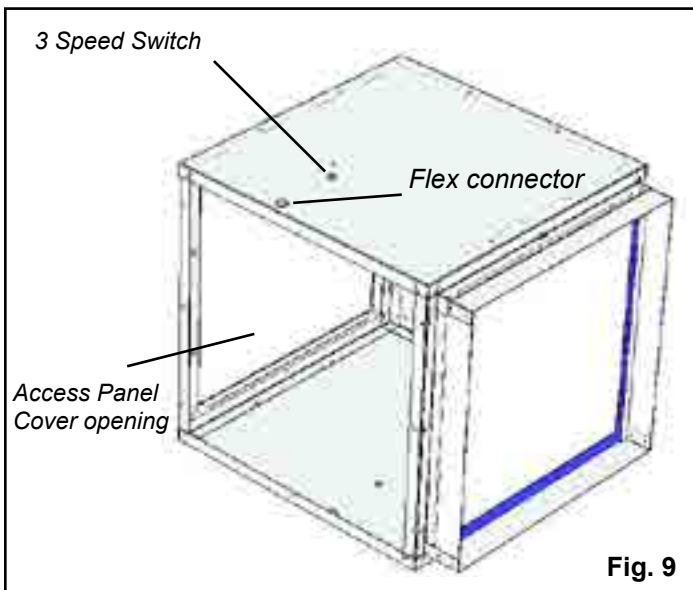

Fig. 9
- Pry out the two knockouts in the top of the box and install the flex connector and the switch. See Fig. 9.